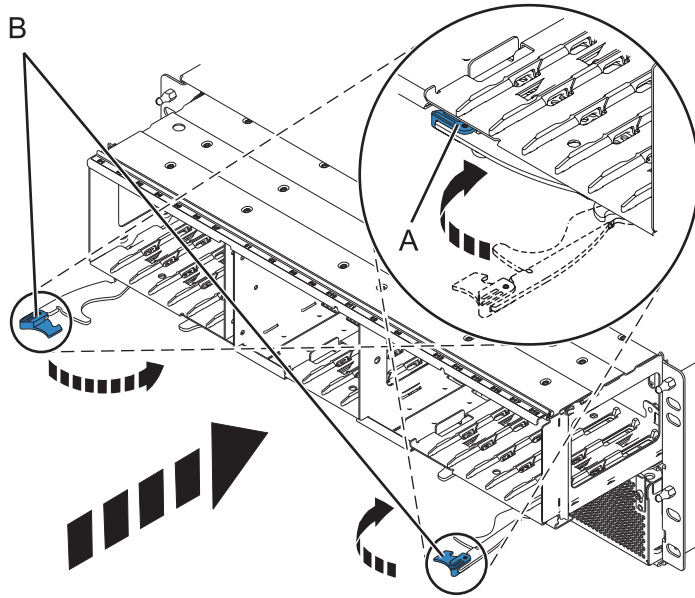

Figure 5. Installing the disk drive backplane in a rack-mounted model
7. Using your hand to support the bottom of the disk drive backplane or backplane filler, slide it into the expansion unit as shown in Figure 5 on page 8 or Figure 6 on page 8.
8. Secure the disk drive backplane in place by moving the locking tabs from the open position (B) to the locked position (A).